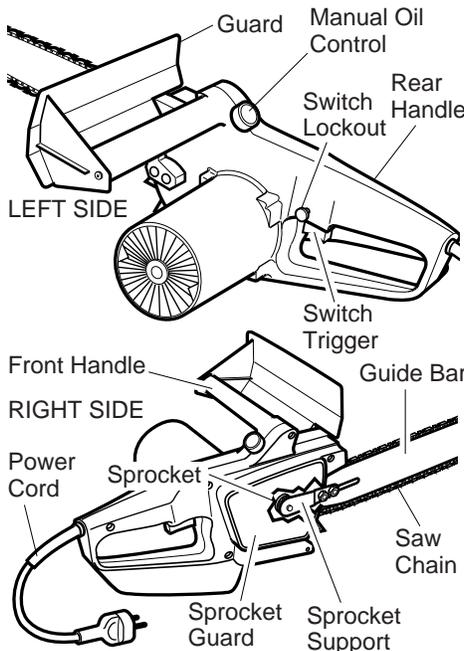

Figure 4 - Left and Right Sides
**Front Handle** The support located toward the front of the chain saw which extends from the left side of the chain saw. The proper grip of this handle in the normal cutting position gives you the greatest ability to control the chain saw in the cut (See Figure 4).